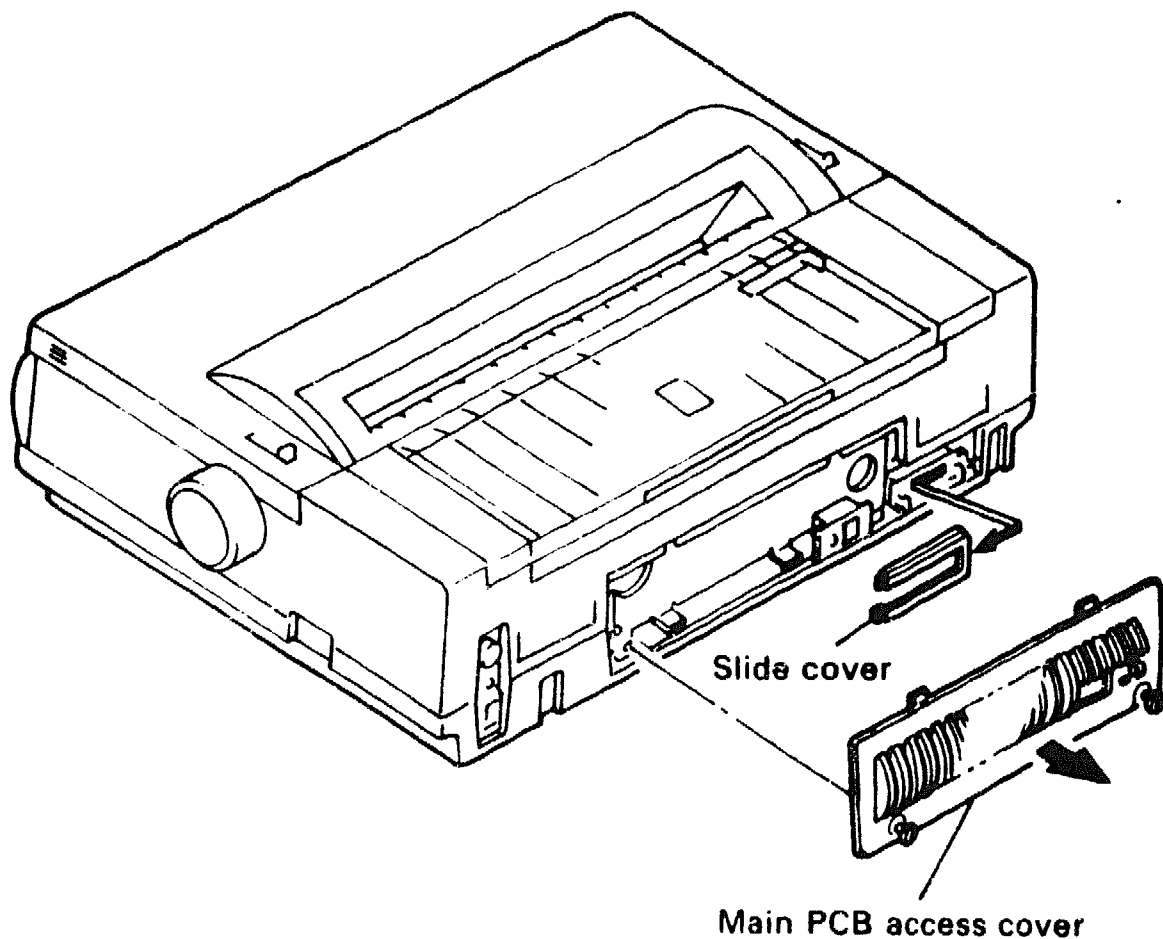

Figure 6-10 Removing the Main PCB Access Cover
1. Remove the main PCB access cover and the slide cover (Figure 6-10).
3. Remove the main PCB access cover and the slide cover (Figure 6-10).